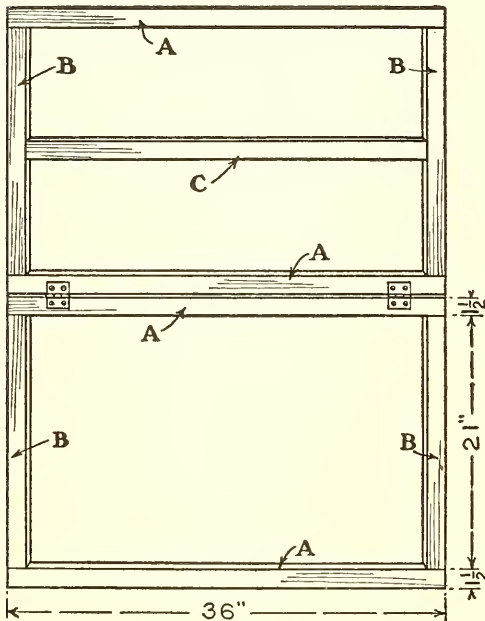

FIG. 137. — Detail of Framework
Fig. 137 shows the construction of the framework, with dimensions of all the parts. You will note that the front and back portions are identical, except that the back has an additional strip (C), fastened between end strips B midway between strips A.